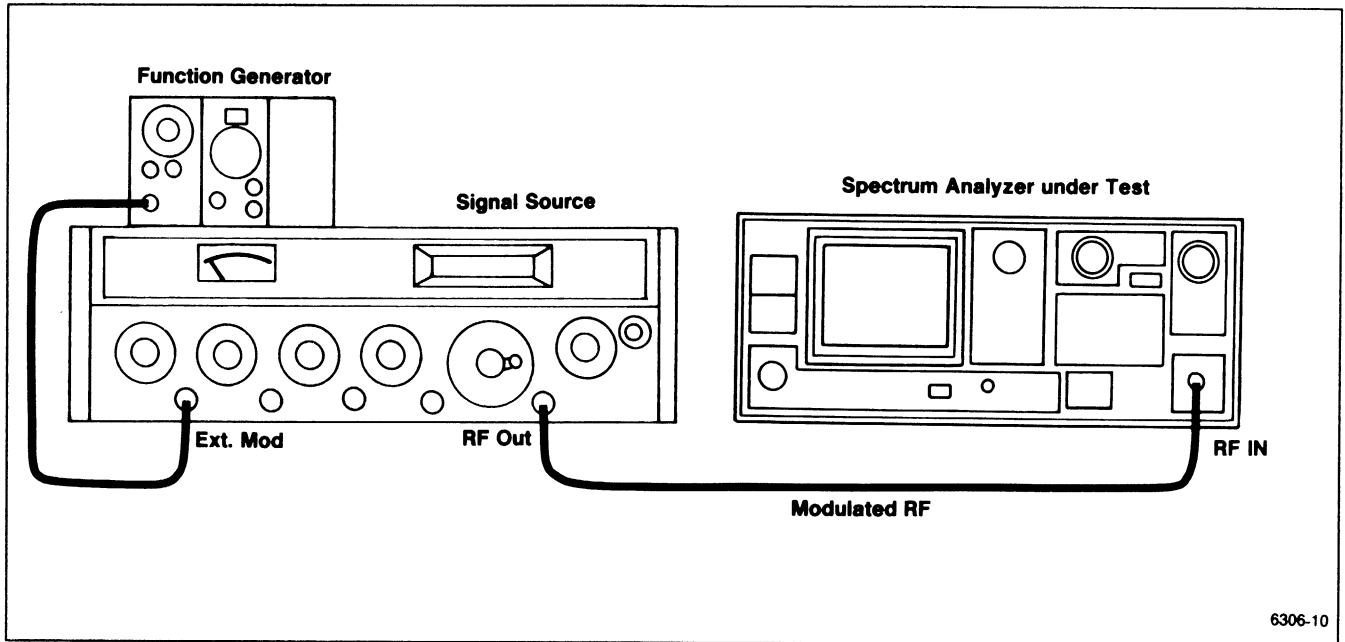

Figure 4-17. Test equipment setup for checking internal trigger characteristics.
a. Connect the test equipment as shown in Figure 4-17.